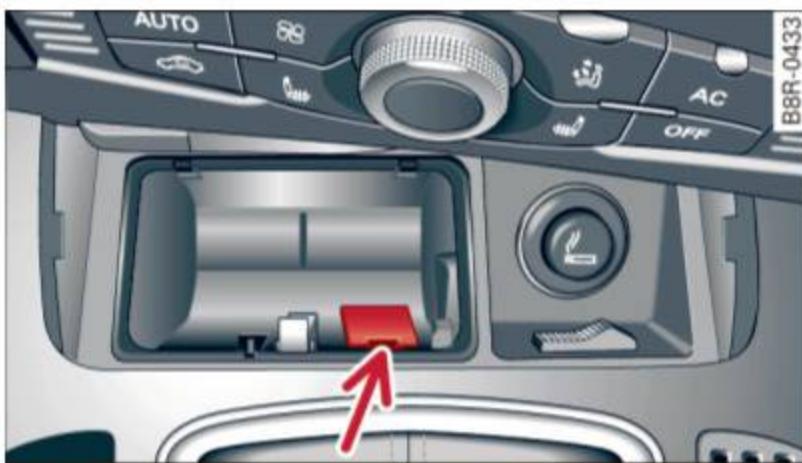

Fig. 89 Selector lever emergency release
- ▶ You now have access to a pin. Using a screwdriver or similar object, press the pin down and hold it in that position ⇒ *fig. 89*.